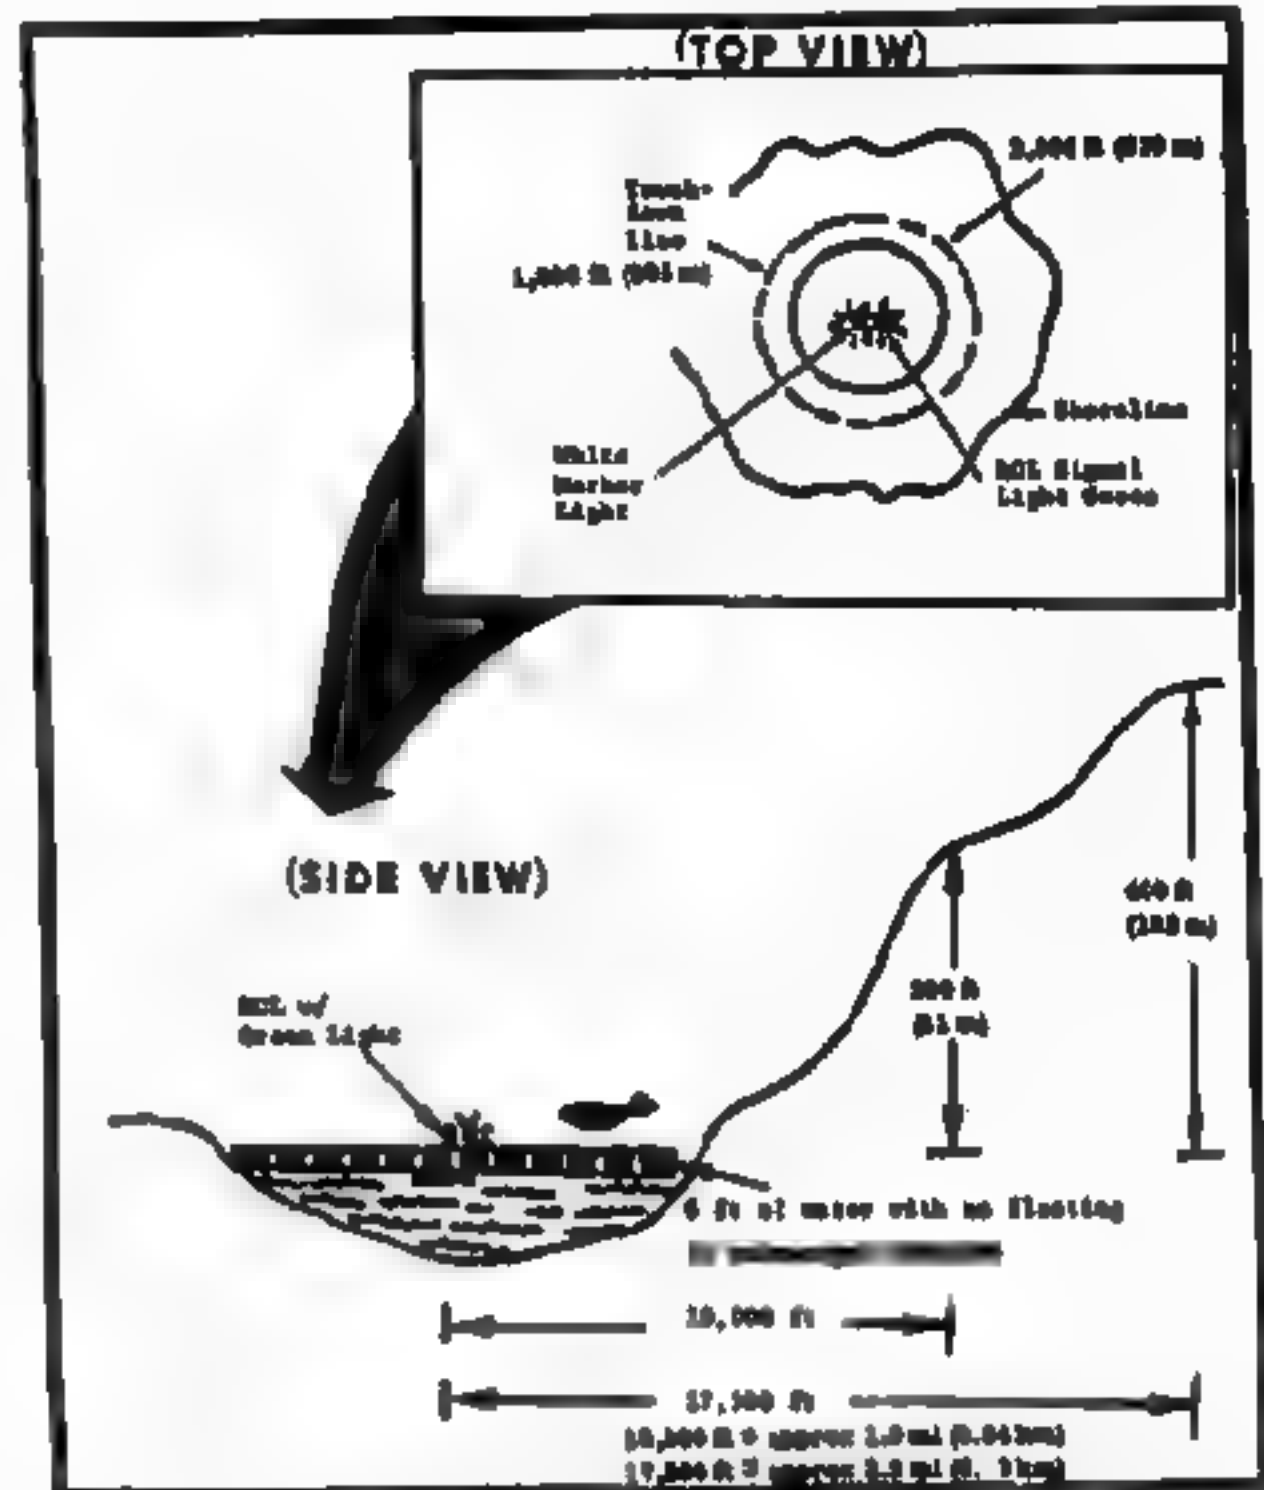

Figure 10. One light water landing zone light.
(1) Depending upon visibility, lights or panels may be used to mark water LZ's.
(2) The normal method of marking water LZ's is to align three marker stations along the left edge of the landing strip. Station "A" is positioned at the downwind end of the strip and indicates the desired touchdown point. Station "B" marks the last point at which the aircraft can touch down and complete a safe landing. Station "C" is also the location of the RCL and the pickup point. Station "C" marks the upwind extreme of the landing area. At night, stations "A," "B," and "C" are marked by white lights. The RCL signal light is green.
(3) An alternate method is to use a single marker station, marked at night with a steady light in addition to the signal of recognition light. This station is located to allow a clear approach and takeoff in any direction. The pilot is responsible for selecting the landing track and may touchdown on any track 1,000 feet (305 meters) from the marker station. Following pickup, the aircraft taxis back to the 2,000-foot (610 meters) circle in preparation for takeoff. (Figure 10).